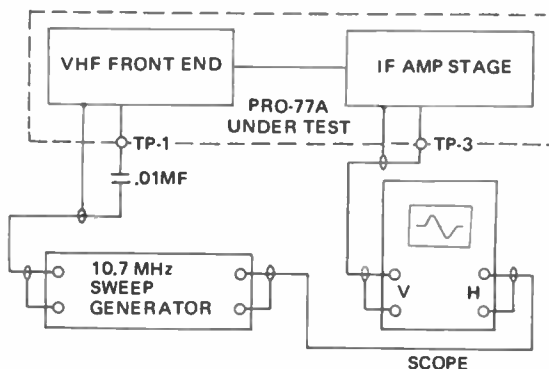

FIGURE 3. IF SECTION ALIGNMENT INSTRUCTIONS
Step 1: Connect the instruments as shown in Figure 3.